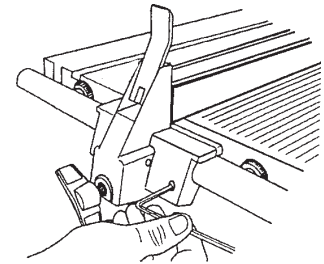

Figure B-88
66. Use a 5/32" Allen wrench to back out the adjusting set screw from the fence base so it doesn't contact the infeed table tube, as shown in Figure B-88.